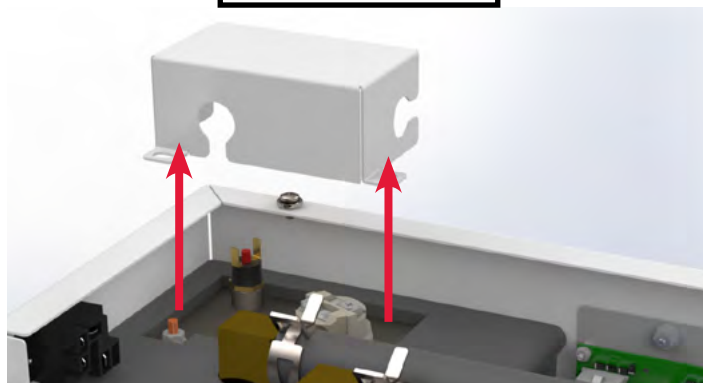

Figure 41
1. Disconnect all sources of AC and DC power from the Aqua-Hot (if the AC high-limit thermostat is the issue, the AC access cover will need to be removed - see Figure 41).